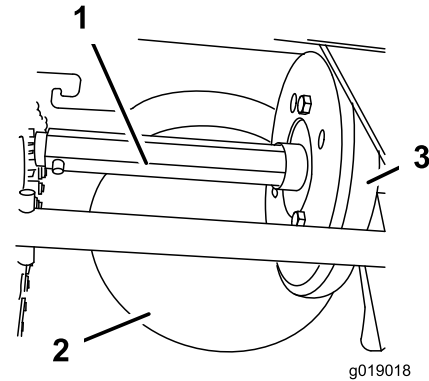

Figure 42
Lightly lubricate the hex shaft yearly with automotive engine oil (Figure 42).
**Important:** Do not get oil on the rubber wheel or the steel friction pulley because the traction drive will slip (Figure 42).